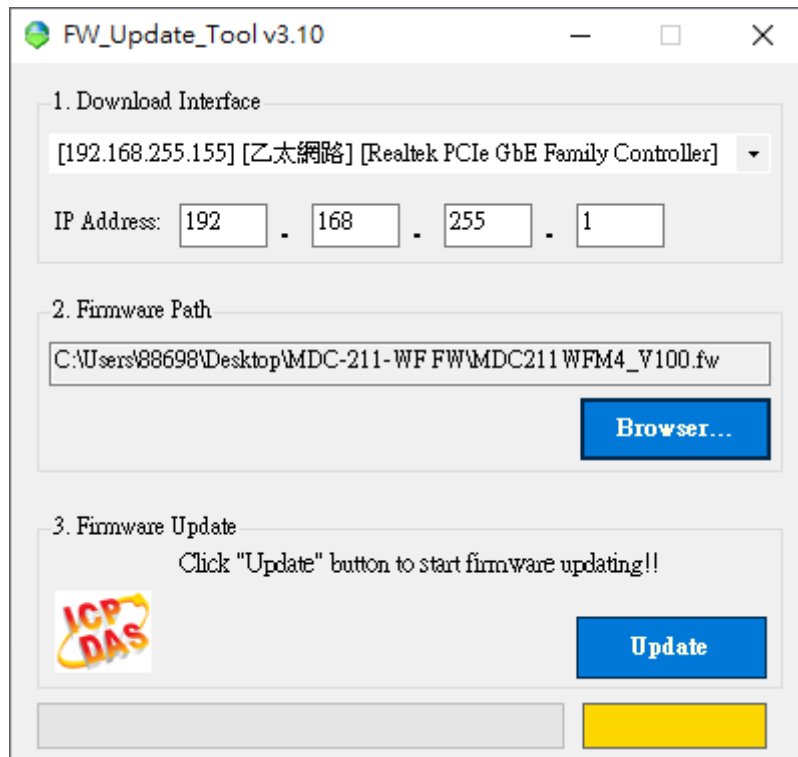

Figure 5.3 FW_Update_Tool firmware update steps
- (1) Download the latest version of the firmware program and update Tool (FW_Update_Tool) on the MDC-211-WF product page and store it in a computer that you want to connect to MDC-211-WF.
- (2) Short the FW with P.GND of MDC-211-WF and turn on the power. When the six LEDs of MDC-211-WF turn blinking alternately, the MDC-211-WF is successfully entered the firmware updating mode.
(3) Execute "FW_Update_Tool.exe" with the administrator privileges (👤) and follow the steps as Figure 5.3: